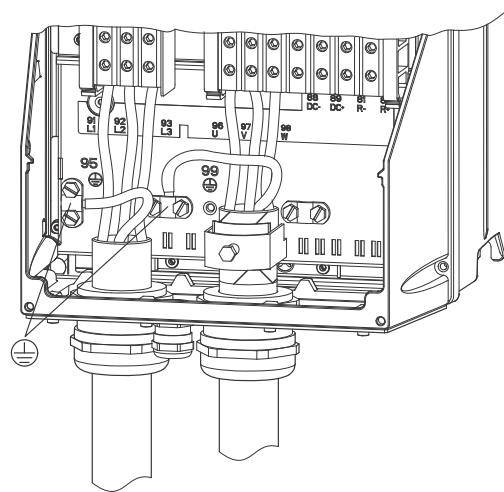

Fig. 160 Mains and motor connection, C1
1. Connect the earth conductor to terminal 95 (PE). See fig. 160.
1. Connect the earth conductor to terminal 99 (PE). See fig. 160.
2. Connect the motor conductors to terminals 96 (U), 97 (V), 98 (W).